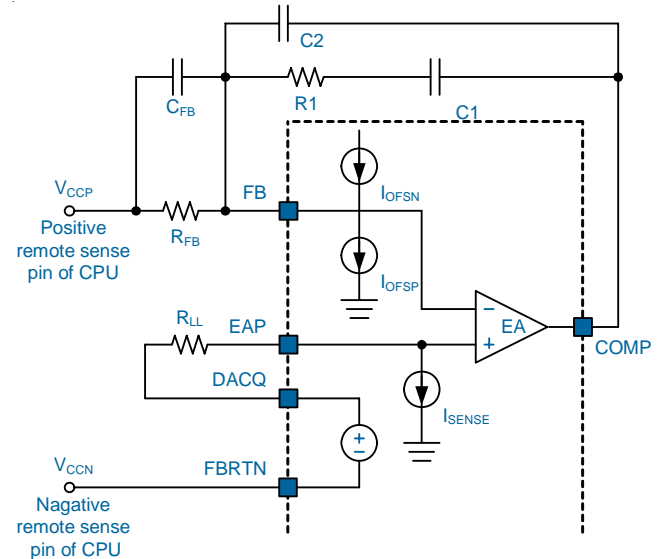
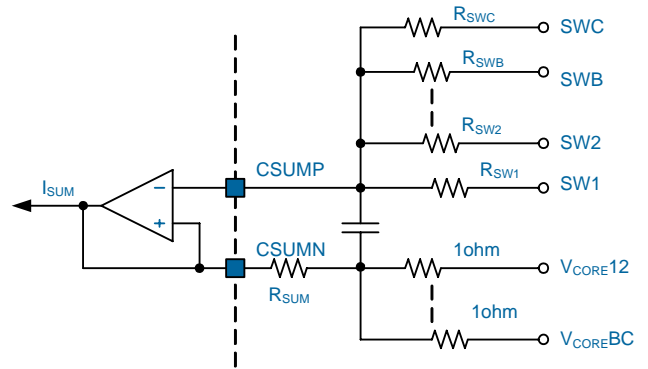

Figure 6. Circuit for  $V_{OUT}$  Differential Sensing and No Load Offset
Figure 8. Total Load Current Sensing.
The uP6208 uses differential sensing by a high gain low offset error amplifier as shown in Figure 6. The CPU voltage is sensed between the FB and FBRTN pins. A resistor  $R_{FB}$
In Figure 6,  $I_{OFSN}$  and  $I_{OFSP}$  are used to generate no-load offset. Either  $I_{OFSN}$  or  $I_{OFSP}$  is active during normal operation. Connect a resistor  $R_{OFS}$  between OFS pin and GND to generate negative no-load offset voltage  $V_{OFSN}$ .
The uP6208 provides low input offset current sense amplifier (CSA) to monitor the total load current flowing through inductor as shown in Figure 8. Output current of CSA ( $I_{SUM}$ ) is used for active voltage positioning (AVP), load current monitoring and over current protection. In this inductor current sensing topology,  $R_{SW}$  and  $C_{SUM}$  must be selected according to the equation below:
$I_{SENSE}$  in Figure 6 is a mirror of  $I_{SUM}$  in Figure 8.  $I_{SENSE}$  flows through  $R_{LL}$  and makes  $V_{EAP}$  equal to  $V_{DACQ} - I_{SENSE} \times R_{LL}$ . In steady state, output voltage is equal to  $V_{EAP}$ . Thus, the output voltage decreasing linearly with  $I_{OUT}$  is obtained. The loadline is defined as
A high gain and low input offset error amplifier (EA) is used for the control loop. The positive input of EA is set via the VID logic according to the voltages listed in  $V_{DAC}$  table of INTEL VR11/VR10 or AMD K8. This voltage is then shifted by a voltage proportional to total load current for active voltage positioning. The output of the EA is the COMP pin.  $V_{COMP}$  is shifted by a voltage proportional to channel current. Then the voltage is compared with internal ramp to generate PWM signal. The negative input (FB) is tied to the positive remote sense pin of CPU through a resistor  $R_{FB}$  for sensing and controlling the output voltage. The main loop compensation is incorporated into the feedback network between FB and COMP. A type-3 compensation network like Figure 6 is recommended. The values of R, C in type-3 compensation need complex calculation and fine tune. We simplify the problem by providing a design tool to our customers. Our design tool contains a spreadsheet which can generate the R, C values according to customer's requirement. The design tool does not provide the optimal R, C values but provides a proper starting R, C values for fine tune.